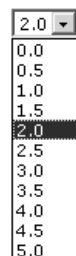

Figure 6-18 — RGB delay drop box
4. Click the RGB delay drop box. A drop-down scroll box appears (figure 6-18).